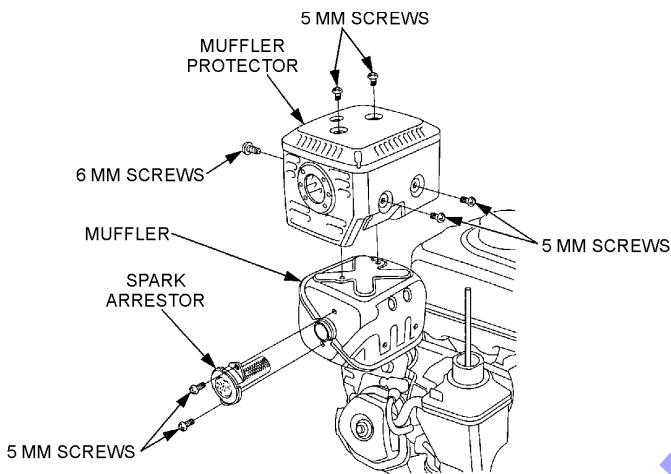

Figure 20. Spark Arrester Removal
1. Remove the 4 mm screw (3) from the exhaust deflector, then remove the deflector. See Figure 20.
2. Remove the 5 mm screw (4) from the muffler protector, then remove the muffler protector.